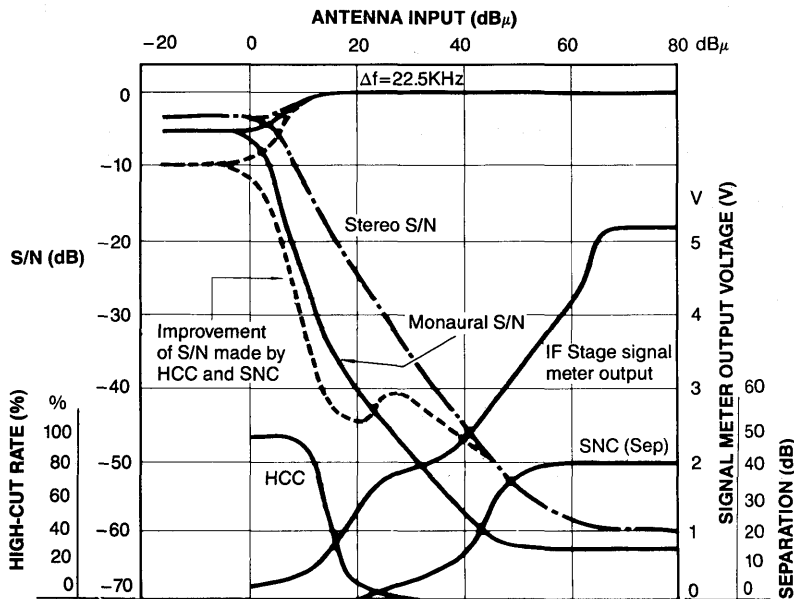

Fig. 3
The output of meter of IF amplifier IC used for quadrature detection is usually the one shown in Fig. 4. (Fig. 3 shows the data of the KA22441). Thus, the HCC characteristics (Fig. 10) are set so that the Area B may be ameliorated when the output mentioned above is directly connected with the HCC Terminal (Pin 7) of the KA2262.
In Fig. 3, is shown an example of S/N-ratio characteristics caused from the antenna input when SNC and HCC are connected with the IF stage through the outer circuit shown below.
5. Improvement of S/N Ratio in Area C shown in Fig. 3
In Area C shown in Fig. 3, the S/N ratio is further worsened. Its improvement should be performed by the IF muting. The KA22441 can be enumerated as an IC which can vary ghi IF muting linearly. The S/N-ratio improvement effect of the KA2262 can further be enhanced if the KA2262 is used together with the KA22441.